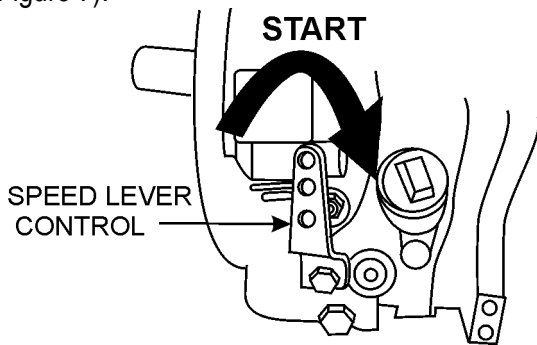

Figure 7. Engine Speed Lever Control (START)
1. Move the speed lever control to the START position (Figure 7).